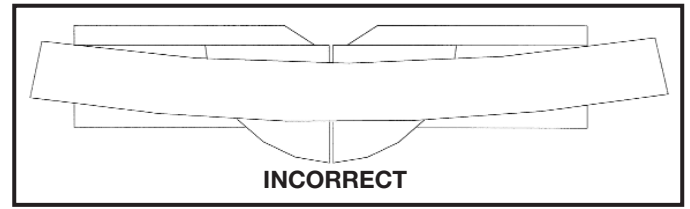

Fig. 37
2. When the workpiece is positioned the wrong way (Fig. 37), it will pinch the blade near the completion of the cut.